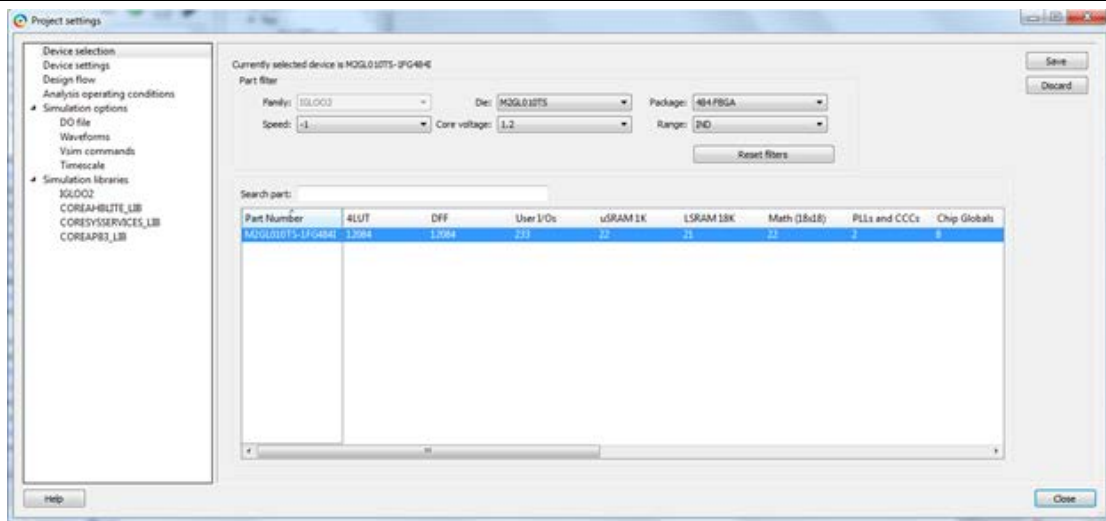

Figure 3 Libero SoC New Project Parameters
- **Use Design Tool:** checked (as shown in Figure 3)